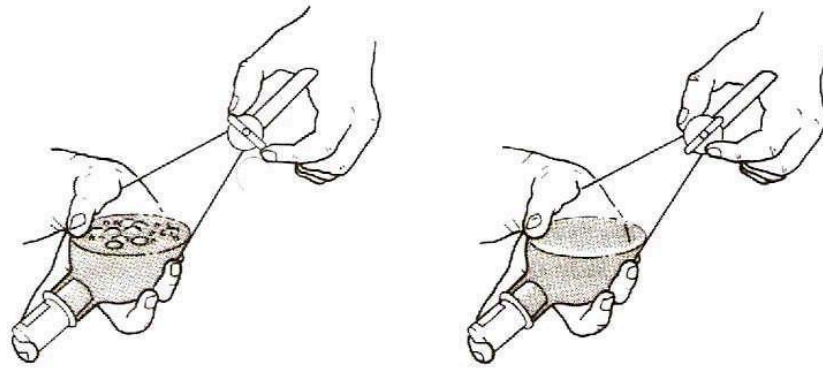

Figure 3. Releasing the pressure building up inside the funnel
10. Swirl the separatory funnel gently to avoid forming emulsions. To decrease gas-pressure build up, invert the separatory funnel, secure the cap with one hand, and release the gas through the stopcock (shown in Figure 3).